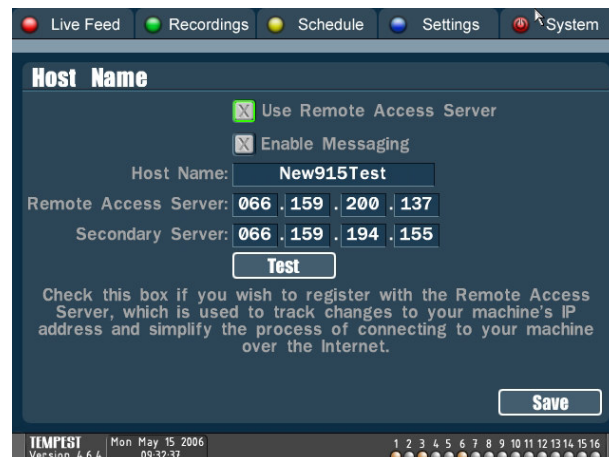

Figure 21. Host Name Menu
1. On your DVR, navigate to the **Host Name menu** (Figure 21) under the **System menu**.